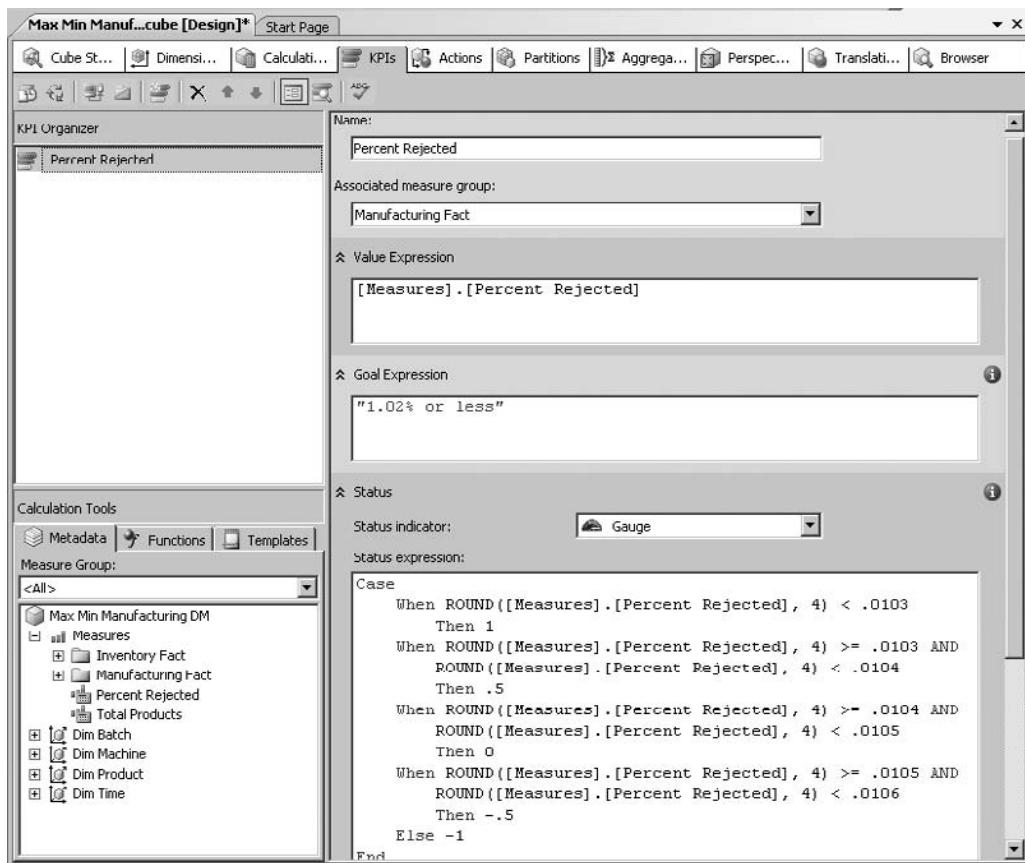

Figure 10-21 The KPIs tab on the Cube Design tab
Key Performance Indicators are created using the KPIs tab on the Cube Design tab shown in Figure 10-21. On this tab, we define each property of the KPI.
11. Click the Save All button on the toolbar. The KPIs tab should appear similar to Figure 10-21.